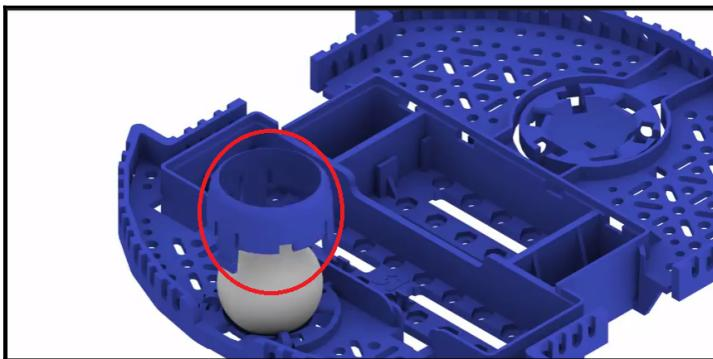

Figure 6.7: Connecting the ball caster retention clip. Image courtesy of Pololu—<https://www.pololu.com>
3. Push the ball caster retention clip over the ball and into the chassis so that the three legs snap into their respective holes (*Figure 6.7*):